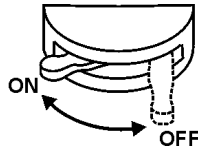

Figure 39. Battery Switch (ON)
1. Set the **battery ON/OFF switch** (Figure 39) to the "ON" position.